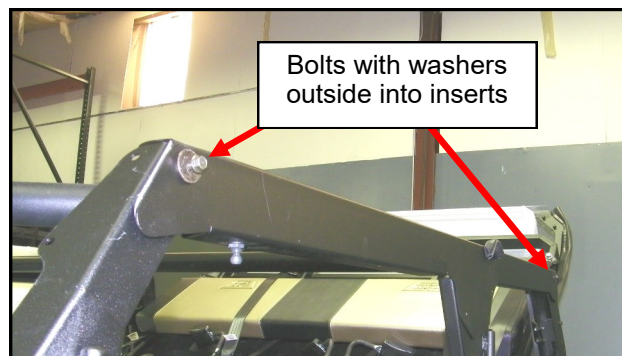

Fig. 7.1 (Header placement)
**7.1** Per figure 7.1, place the left Header on top of the upper left ROPS and align the holes in the upper flange of the panel to the holes in the ROPS. Insert a 1/4-20 bolt with washer into the threaded inserts in the A-Pillar and C-pillar and leave loose. Repeat for the right side.